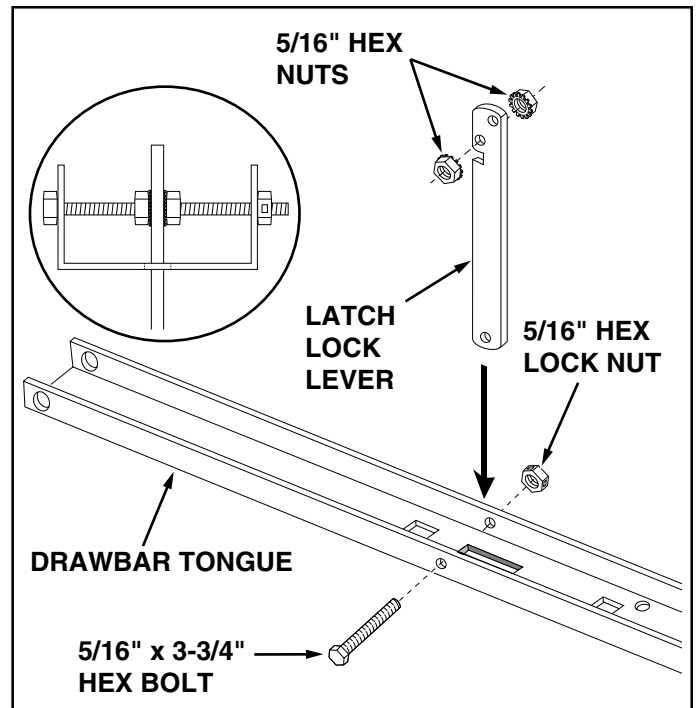

FIGURE 1
- (2) 9/16" Wrenches
- Place the latch lock lever through the slot in the draw bar tongue as shown in figure 1. Assemble the 5/16" x 3-3/4" hex bolt through the tongue, the lever and two 5/16" hex nuts (one on each side of the lever). Assemble the 5/16" hex **lock** nut onto the end of the bolt and **tighten** so that the bolt can still rotate freely. **Tighten** the two 5/16" hex nuts against the sides of the latch lock lever so that the lever is centered in the slot. See figure 1.